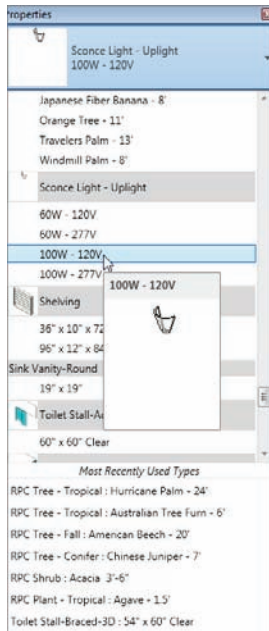

FIGURE 19.11 Choosing the sconce
10. In the Properties dialog, choose the Sconce Light - Uplight 100W-120V (or equivalent) family, as shown in Figure 19.11.